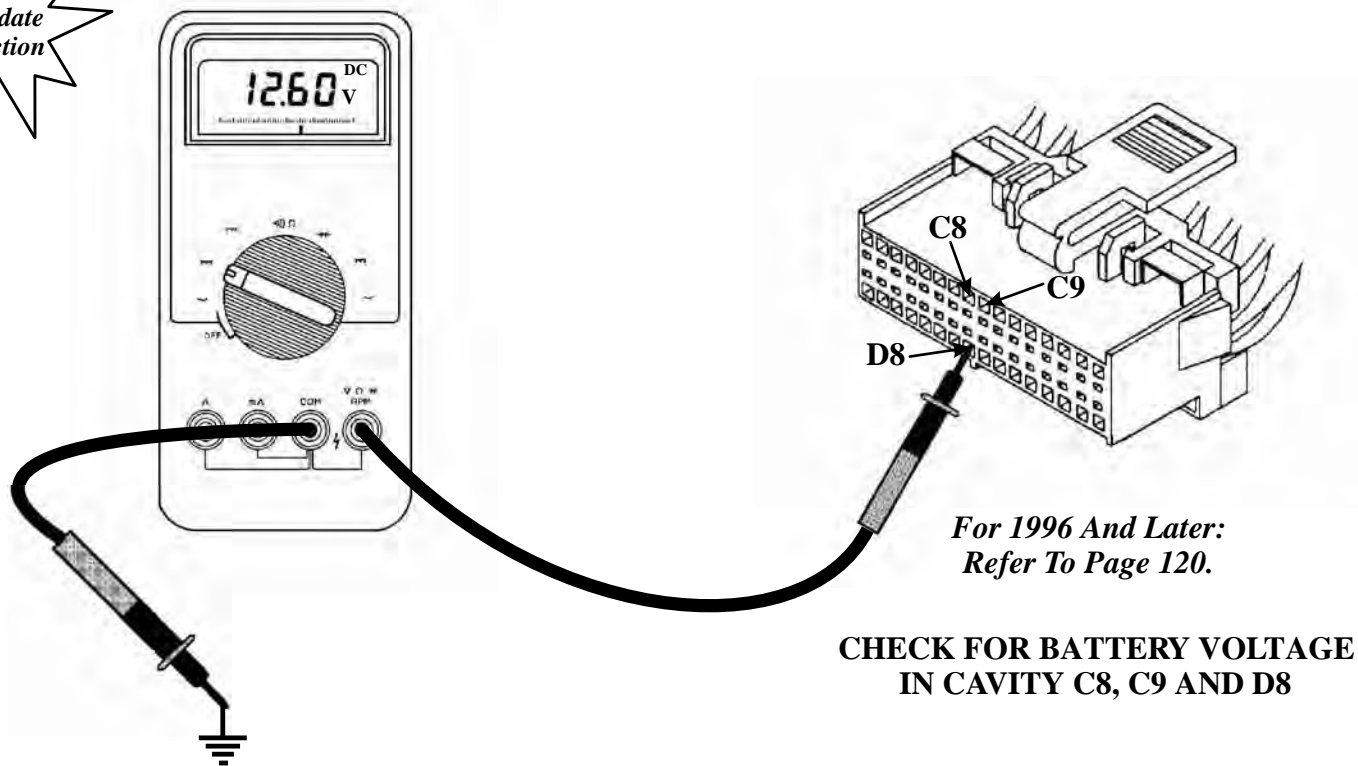
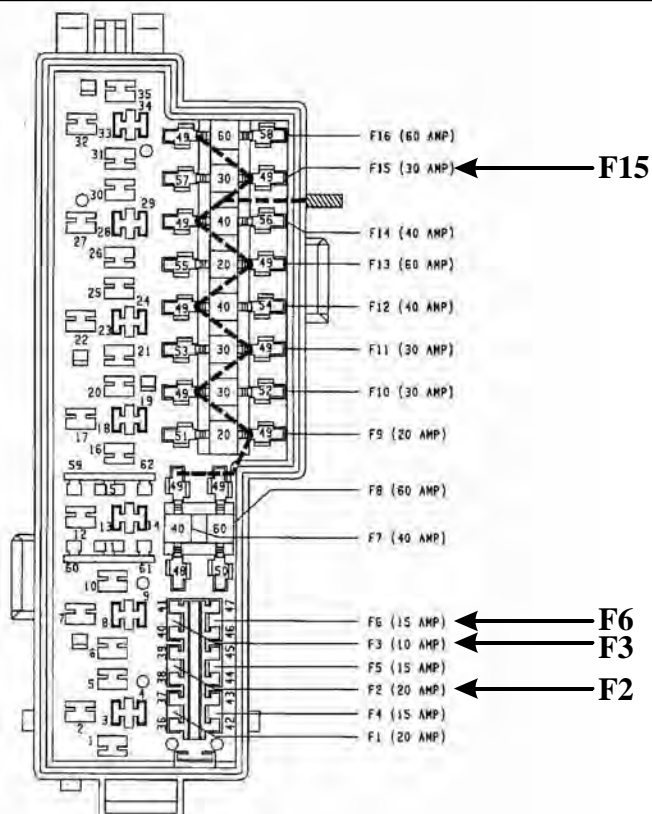

Figure 9
Figure 10
- (c) With the engine off and the ignition switch in the ON position, check for battery voltage in the transmission control module connector, on pins C8, C9 and D8, as shown in Figure 9. If battery voltage is lost at **any** one of these terminals, check for blown fuses in the power distribution center, located on the passenger side fender shield by the battery. Check fuses F2, F3, F6, F15, and replace as necessary, as shown in Figure 10. If battery voltage is seen at all three locations, continue on to the next step. **Note: For 1996 and later models, see Page 120.**